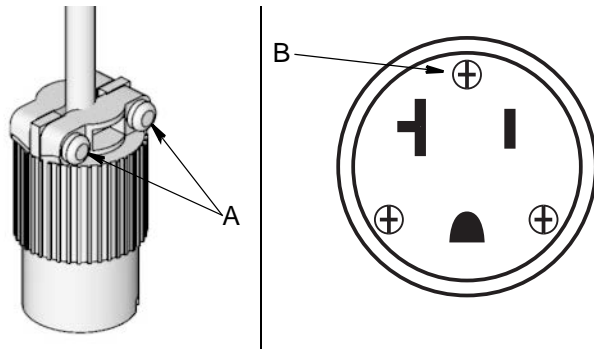

FIG. 26
2. Loosen strain relief screws (A) from plug attached to reel. (FIG. 26)
3. Loosen three screws (B) (FIG. 26) on the front of the receptacle.